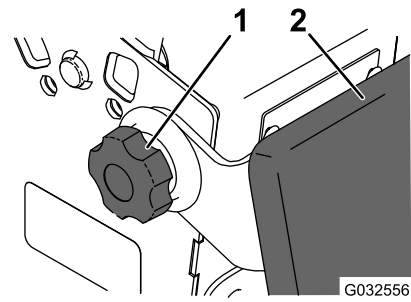

Figure 39
2. Loosen the twist knobs on each side of the machine (Figure 39).